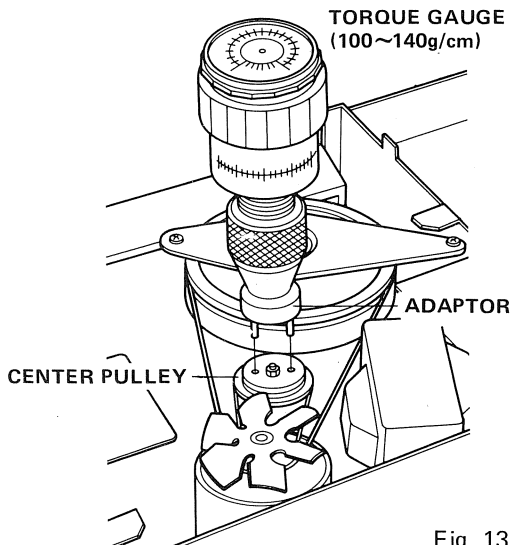

Fig. 13
2. Refer to Fig. 13. Use torque gauge with two-prong adaptor. Put unit in rewind function. Pulley torque should be 100 ~ 140 gram/cm.